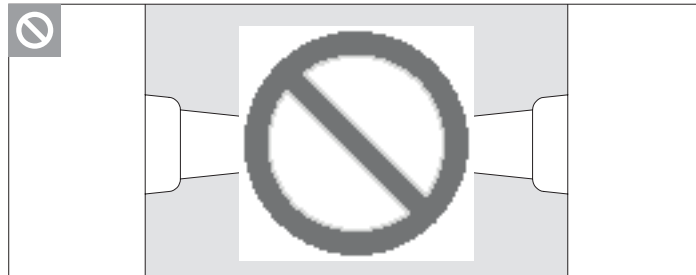

Fig. A3.04
- ⇒ Do not install two cones against each other. (Fig. A3.04)